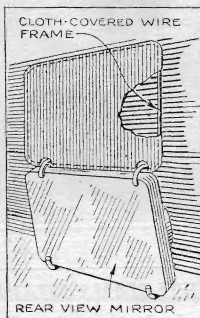

Fig. 3. Silk cloth used to shield car mirror.
**G**LARE from the headlights of cars approaching from the rear often shines in the rear vision mirror in a most annoying manner. Fig. 3 shows how to prevent this and still retain the use of the mirror. Make a simple frame of heavy iron wire slightly larger than the size of the mirror. Hinge this at the bottom under the top portion of the mirror mounting as shown. The details of the method depend on the method of construction. Cover the frame with a single layer of thin black silk cloth. If the cloth is thin enough, the headlights of cars behind will show through sufficiently.